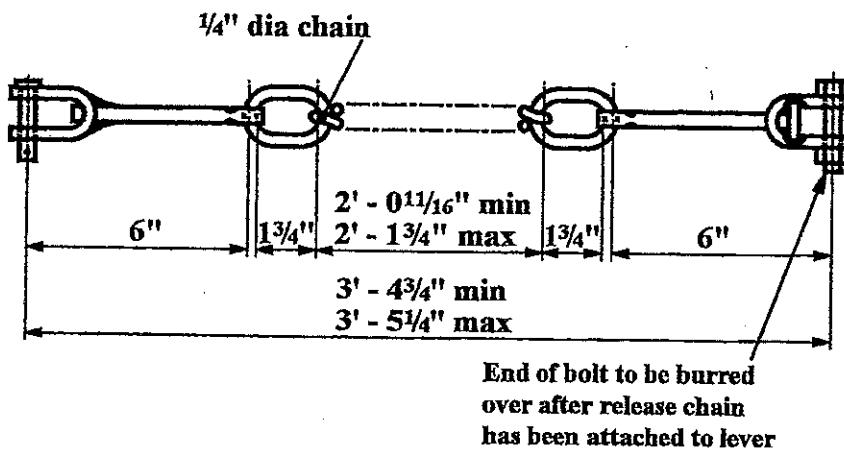

Figure 2 - Release Chain Arrangement
- (h) Examine the release chain arrangement and ensure that it is correctly assembled as detailed in fig. 2.
- (i) Measure the length of the release chain and check that it is within the limits stated in fig. 2.